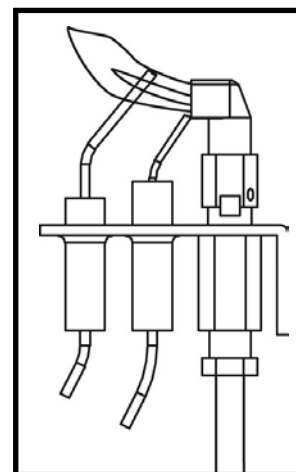

Figure 62: Pilot assembly.
- b) Check the pilot system for proper flame size and operation. Clean pilot free of soot, dust or any other deposits (Figure 62).